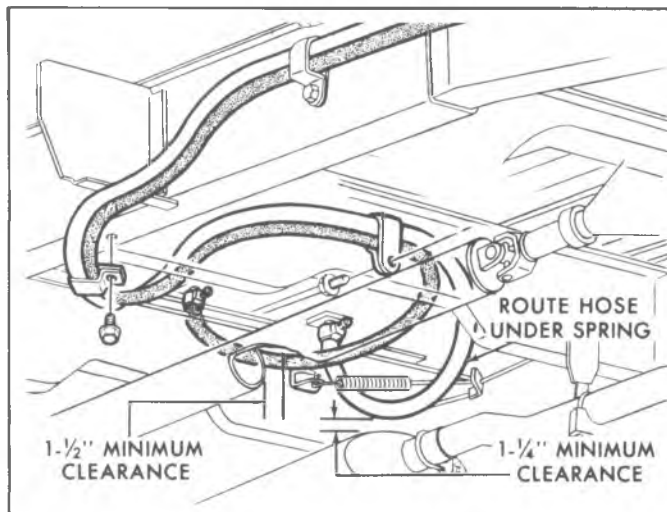

Fig. 20-Heater Hose Routing - G Models
*1-1/2" minimum clearance between hoses and propshaft and a 1-1/4" minimum clearance between the auxiliary heater core lines and the exhaust pipe as shown in Figure 20.*